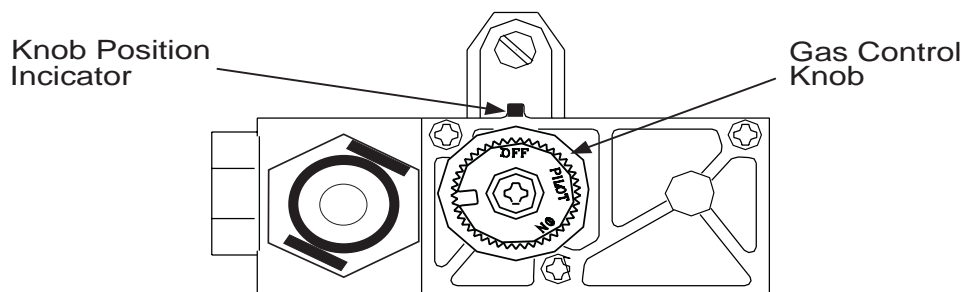

Figure 18-Rotate Control Valve Knob to "ON" Position
- Turn the gas control knob counterclockwise  to the PILOT position, push the gas control knob IN and hold in for about a minute. This will open the pilot valve and allows gas to flow to the pilot burner. (See Figure 18)